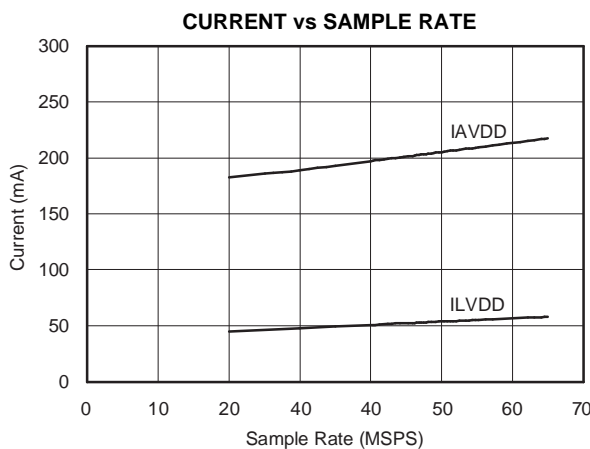

Figure 29.
- Deleted *Supply* from title of Figure 29. .... **18**